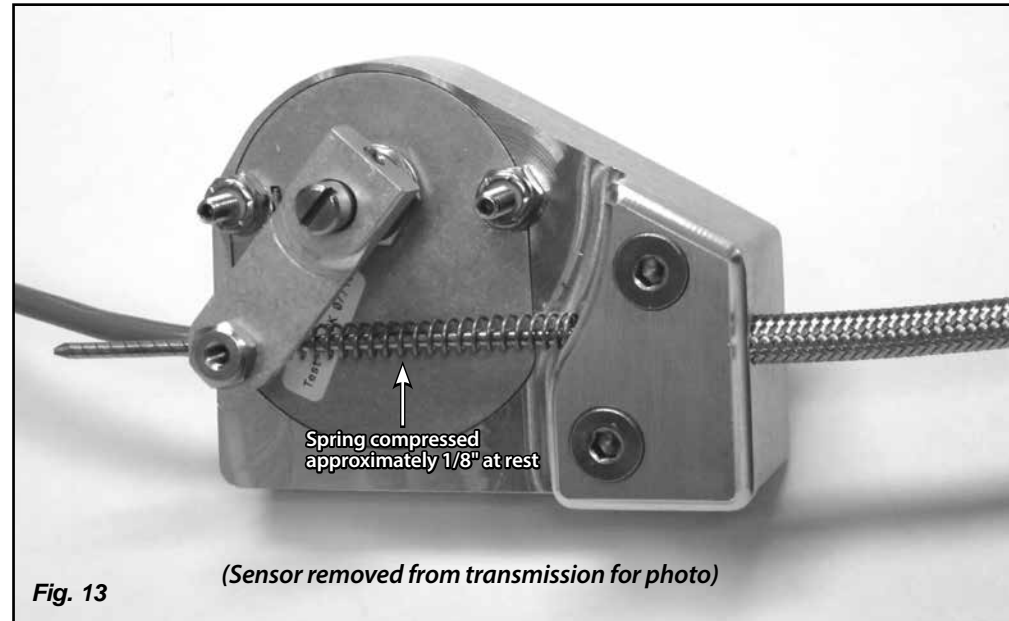

Fig. 13
**Step 14:** Make sure the transmission is in Park. **Push the sensor arm up against the spring, so that the spring is compressed approximately 1/8" at rest in Park. Fig. 13** Tighten the set screw in the index cable stop on the sensor arm using a 1/16" Allen wrench. Trim the excess inner wire, leaving about 1" protruding.